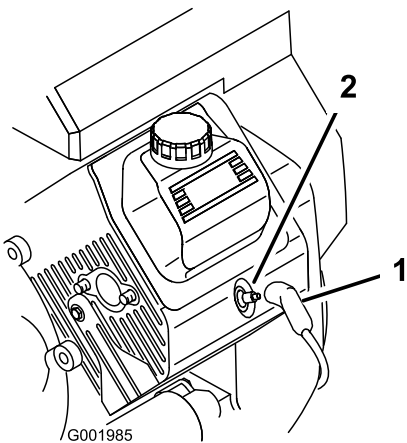

Figure 48
3. Pull the wires off the spark plugs (Figure 48).
3. Push the wires onto the spark plugs (Figure 48).